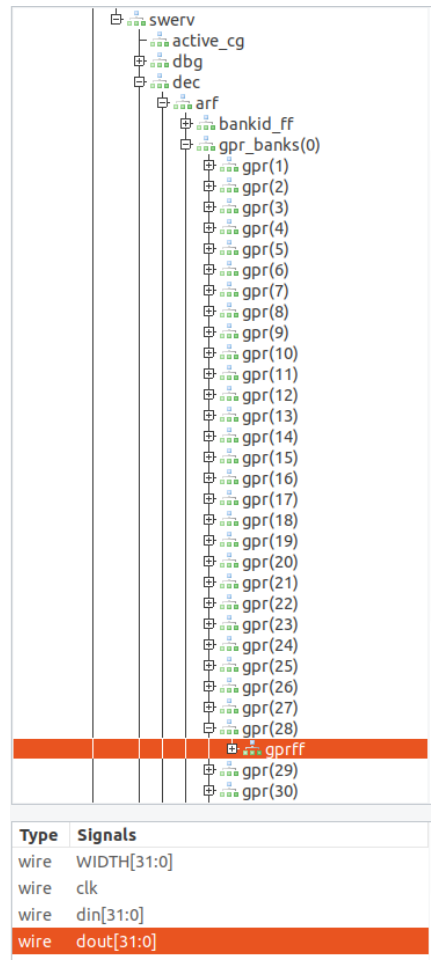

Figure 87. Add signal `dout[31:0]` to the graph
11. Now add the signal that holds the value of register `t3` (i.e., register number 28, `x28`). Expand the hierarchy under **swerv** into **dec** → **arf** → **gpr_banks(0)** → **gpr(28)** and click on module **gprff** (it will highlight as shown in the following figure), select signal `dout[31:0]` (which shows the contents of register `x28`, used in the *AL_Operations.S* example) and drag it into the black Waves pane (Figure 87).